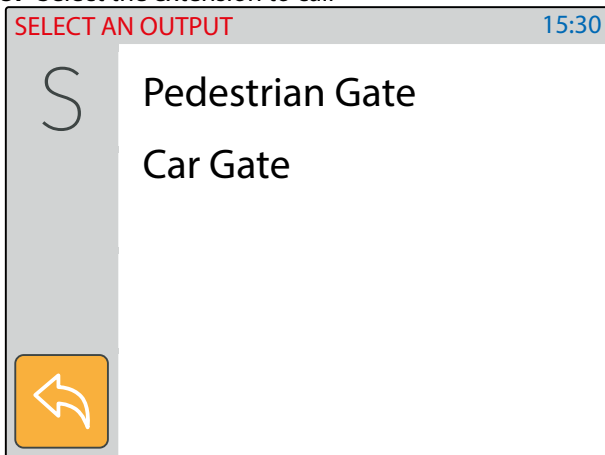
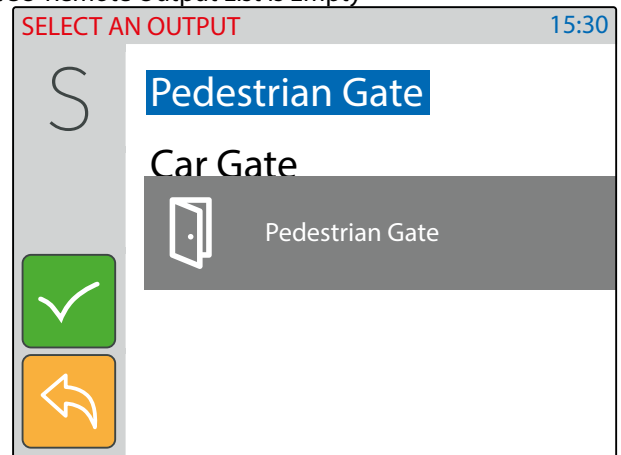

Fig. 59 Select the relay to activate
Fig. 60 Tap on tick button to activate the relay
- Select the relay to activate (Fig. 59) then tap the tick button to activate it (Fig. 60).